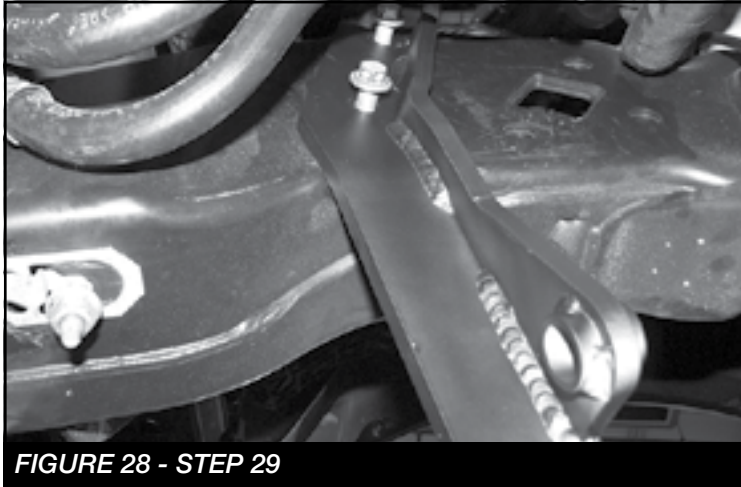

FIGURE 28 - STEP 29
29. Install FT30672 (steering stabilizer drop bracket) in the factory location using the factory hardware. Torque to 52 ft-lbs. **SEE FIGURE 28**